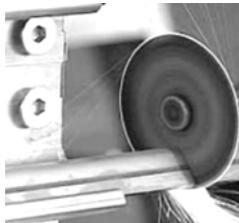

Figure 21
31) See Figure 21. Mark the length of the rail insert (2) so that it is flush with the end of the last rail and cut to length.